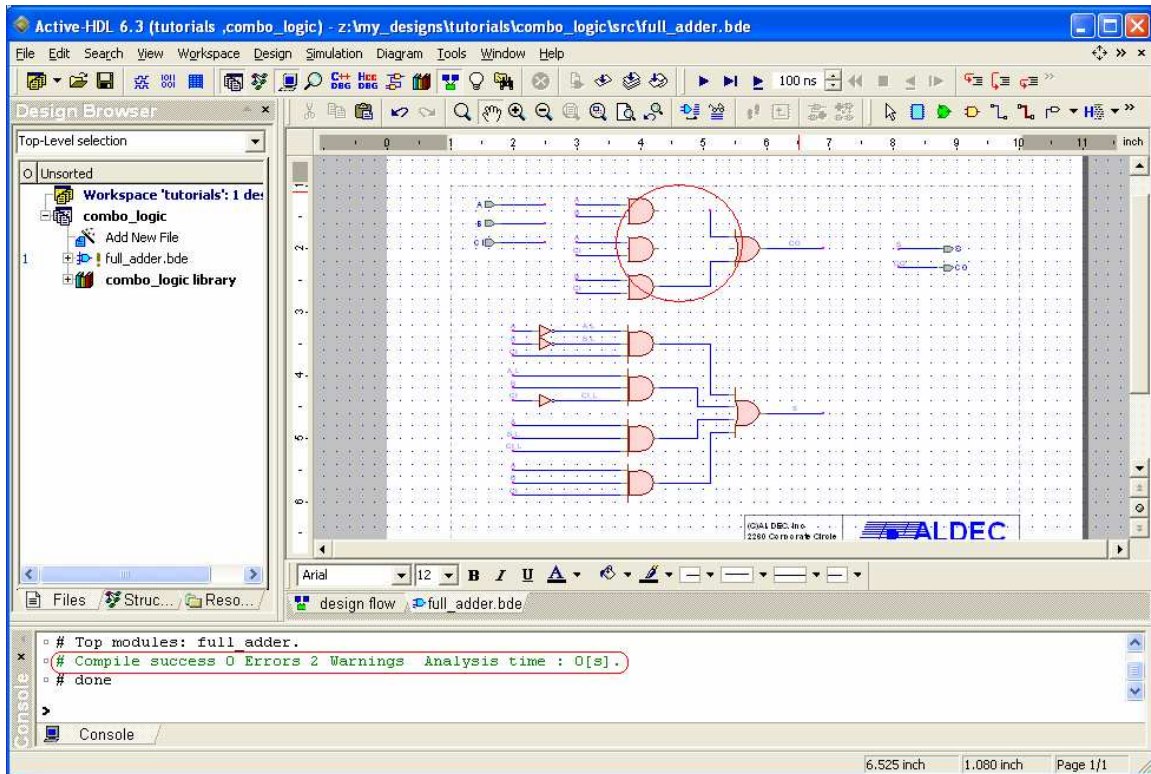

Figure 23
1. Double-click the wire segment you wish to label. This opens the Wire Properties window (Figure 23).
3. After you have checked your diagram and resolved any errors or warnings, click the Compile icon in the Standard toolbar. See the DRC Report (immediately following this section) and the debugging section, which follows the Simulation section, for examples on how to locate and debug errors in your design. The Console window will display the results of the compilation. When compiling a schematic, the console will generally compile successfully even if there are gates and/or terminals that are not connected (in some cases, warnings will be issued for unconnected ports). Therefore, just because a schematic compiles does not mean that it will do what you intended it to do during simulations. This is the reason you need to check your diagram prior to compiling. Figure 23 (next page) shows a successful compilation even though there are terminals and ports unconnected.